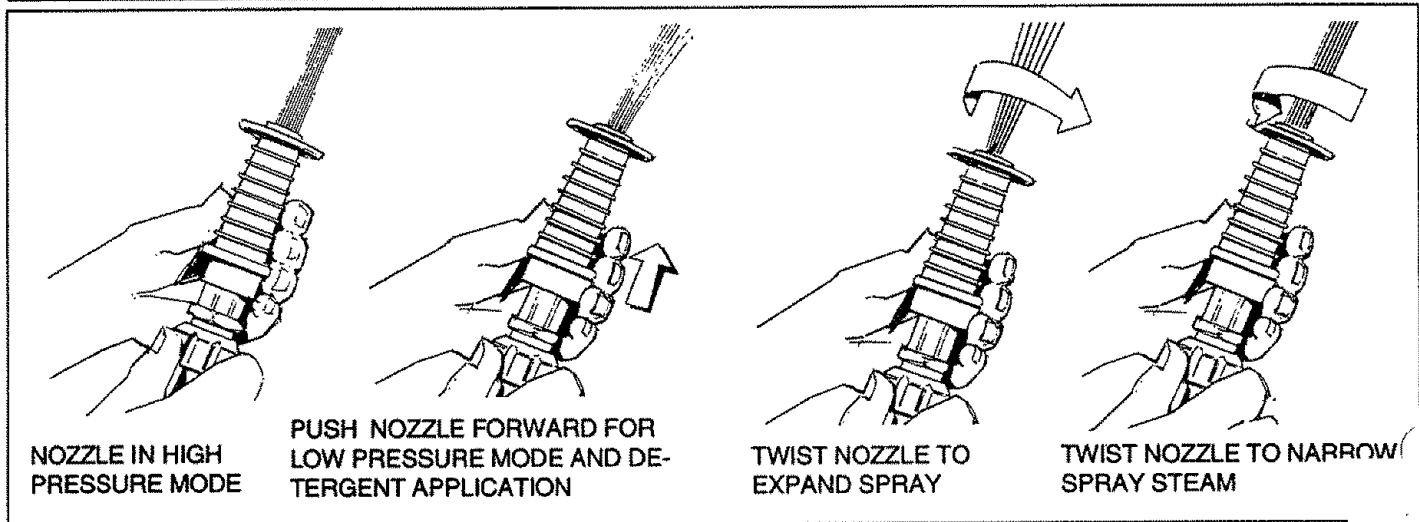

FIG. 12
- Push the nozzle attachment forward when you wish to adjust the spray to low pressure mode (Fig. 12). Push the nozzle backward to achieve high pressure.
Set nozzle to low pressure mode. Detergent is not siphoned in the high pressure mode (Fig. 12).